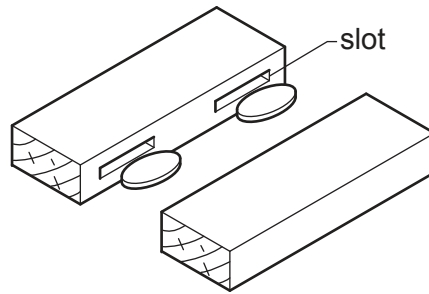

Fig. 1.1
- 1 Fig. 1.1 shows a method of joining two lengths of hardwood. An adhesive is used.
- (a) State the method of joining shown in Fig. 1.1.